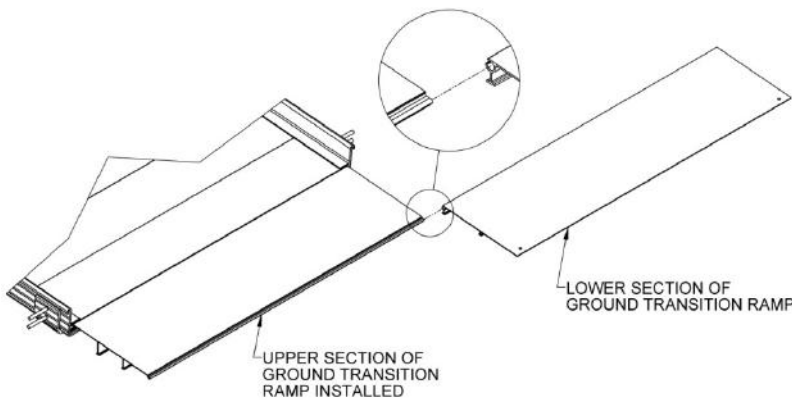

FIG. 3.12
- 3.4.3. Slide the lower section ground transition ramp into upper section (FIG. 3.12).